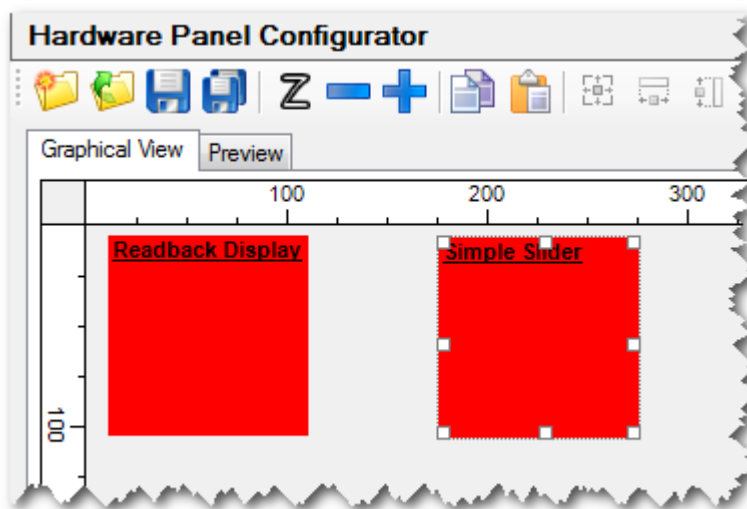

Figure 3-30. New objects dragged into the Graphical View
set the temperature and *Readback Display* as a thermometer object. The objects are shown as red colored squares, see Figure 3-30.
6. Expand the **PeriCon1** entry and select the desired items. In this example, drag *Adc2* (your analog device) to the *Readback Display* and *Dac4* to the *Simple Slider* object. The red colored squares change to symbols, see Figure 3-30.